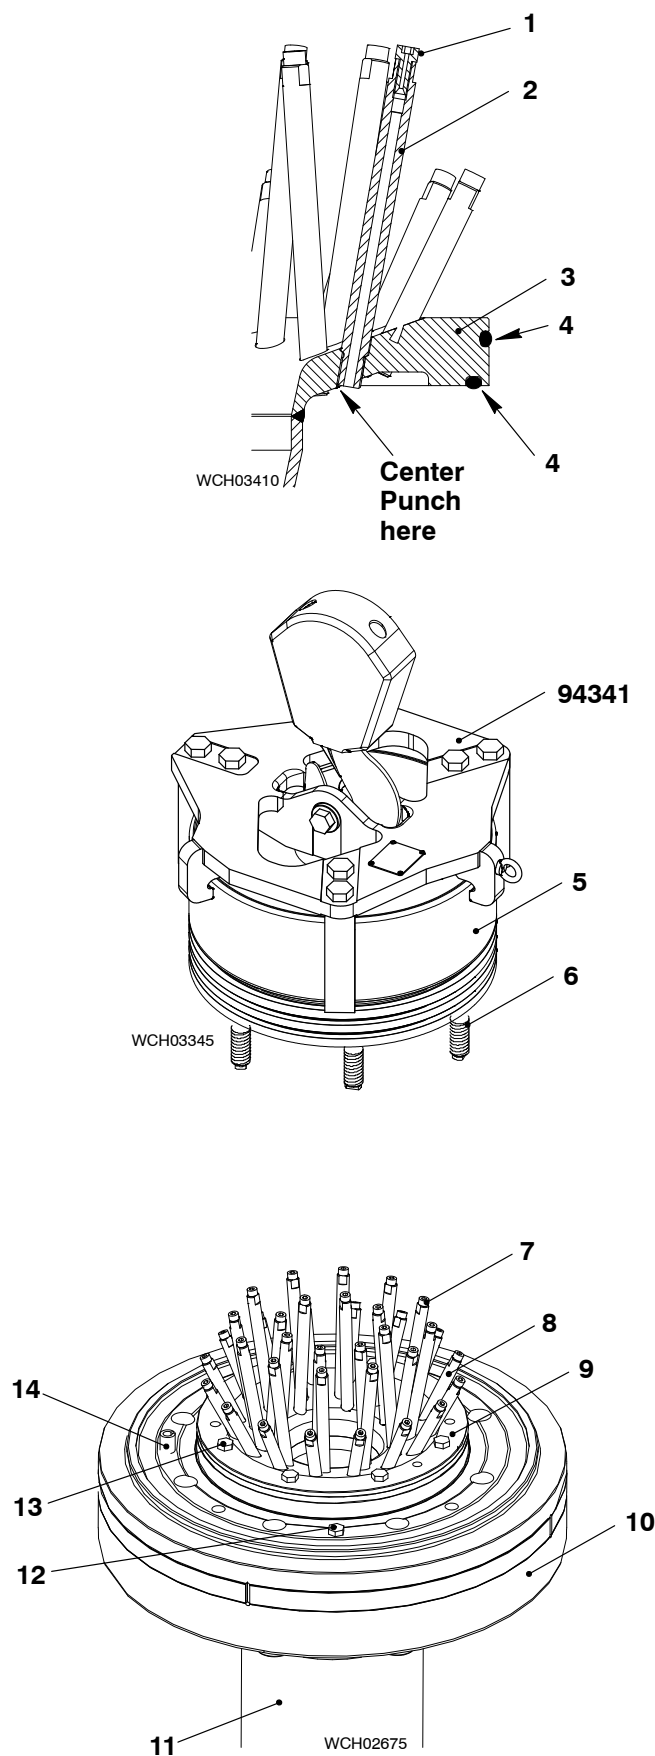

Fig. 4
- 1) Apply Loctite No. 0270 to the thread of the pipe (2, Fig. 4).
- 2) Use the applicable tool to install the pipe (2) to the spray plate (3).
- 3) Use a center punch to lock the pipe (2) in position.
- 4) Apply Loctite No. 0270 to the thread of the nozzle (1).
- 5) Use the applicable tool to install the nozzle (1) to the pipe (2).
- 6) Put oil on the new O-rings (4).
- 7) Install two new O-rings (4) on the spray plate (3).
- 9) Attach the spray plate (9) to the piston rod (11) with the ten nuts (13).
- 10) Torque the ten nuts (13) as follows: